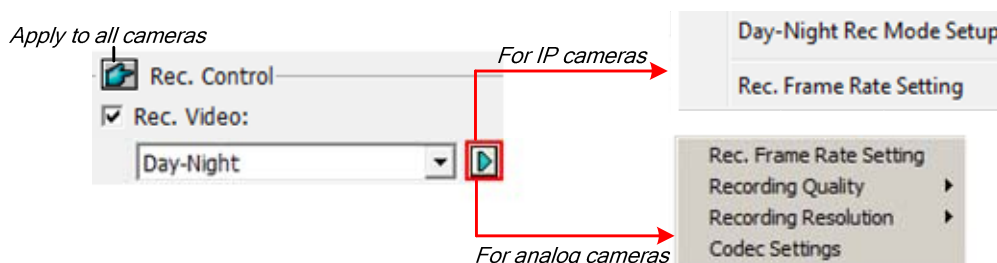

Figure 1-9
1. Click the **Day-Night Recording Mode** button in Figure 1-9, and this dialog box appears.
In Figure 1-9, check the **Apply Advanced Codec Setting** option, click the  button beside, and then click the **Advanced** tab. This window appears.